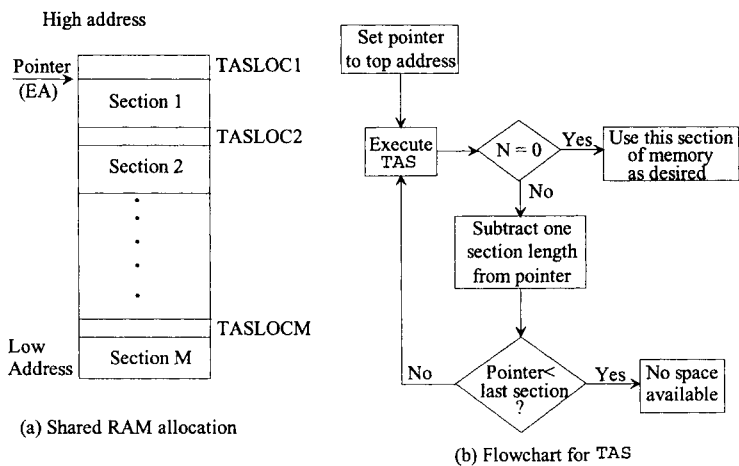

FIGURE 10.28 Memory allocation using TAS
The TAS instruction can, therefore, be used to allocate free memory spaces. The TAS instruction execution flowchart for allocating memory is shown in Figure 10.28. The shared RAM of the Figure 10.28 is divided into  $M$  sections. The first byte of each section will be pointed to by (EA) of the TAS (EA) instruction. In the flowchart of Figure 10.28, (EA) first points to the first byte of section 1. The instruction TAS (EA) is executed. The TAS instruction checks the most significant bit (N bit) in (EA).  $N = 0$  indicates that section 1 is free;  $N = 1$  means that section 1 is busy. If  $N = 0$ , then section 1 will be allocated for use. If  $N = 1$  (section 1 is busy), then a program will be written to subtract one section length from (EA) to check the next section for availability. Also, (EA) must be checked with the value TASLOCM. If  $(EA) < TASLOCM$ , then no space is available for allocation. However, if  $(EA) > TASLOCM$ , then TAS is executed and the availability of that section is determined.